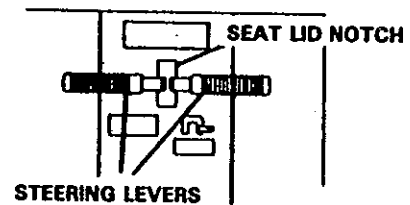

FIGURE 13A
- c. Push top of steering levers fully forward. Both levers must contact forward edge of seat lid notch and levers must be aligned with each other. (see figure 13A)